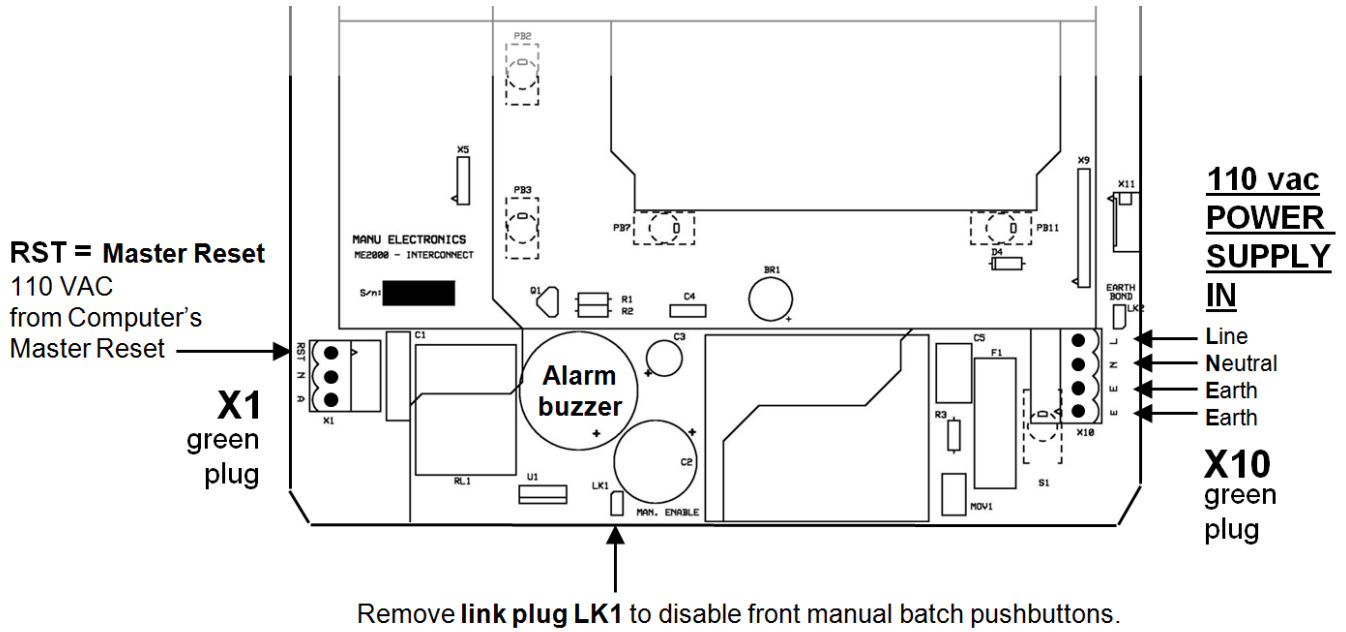

Figure 2. Motherboard Wiring Diagram
- Figure 2. Motherboard Wiring Diagram, on page 3.
1. To reduce industrial noise, connect the computer's 110 vac supply (L is active load, N is neutral, E is earth) to the Motherboard plug X10 (see Figure 2, page 3. X10 is a 4-pin green-coloured plug).
6. **To disable the front manual batch pushbuttons**, remove link LK1 located on motherboard near the Alarm buzzer (see Figure 2 on page 3). This will avoid misuse of manual starts. The other manual functions "select", "mute" and "Reset" will be still fully functional. Plug-in LK1 to re-activate manual batch functions.